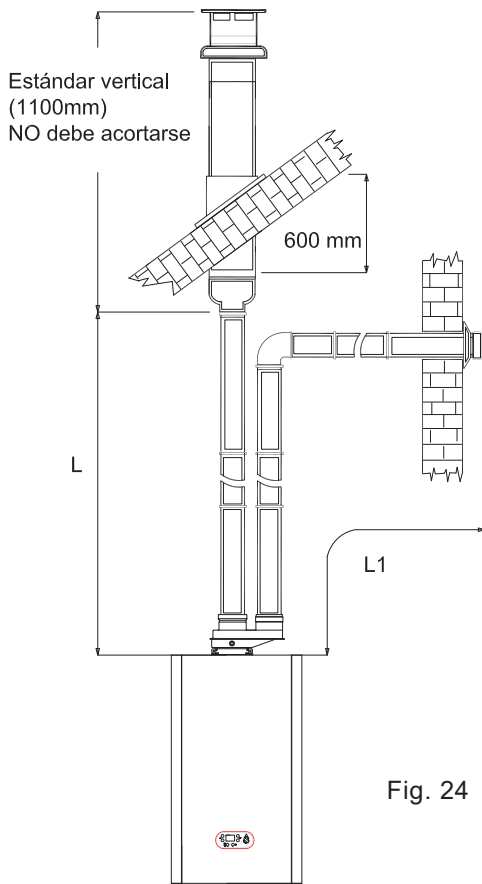

Fig. 24
5.15 Exhaust/suction system with concentric pipes for flat or sloping roofs. Extensions with two separate pipes (fig. 24).
5.16 Exhaust/suction system with with two separate rated 80 dia. pipes exhaust on flat or sloping roof, suction from vertical wall (fig. 24).